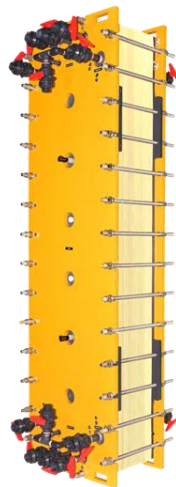

Figure 1. Electrodialysis Stack
Electrodialysis (ED) technology is the second most widely used membrane desalination technology and has been developed since the 1960s for a wide range of industrial applications. It involves applying a direct current (DC) electric field to flux positive ions across cation exchange membranes (CEM) in one direction, and negative ions through anion exchange membranes (AEM) in the opposite direction. The two types of membranes alternate within a stack (Figure 1).